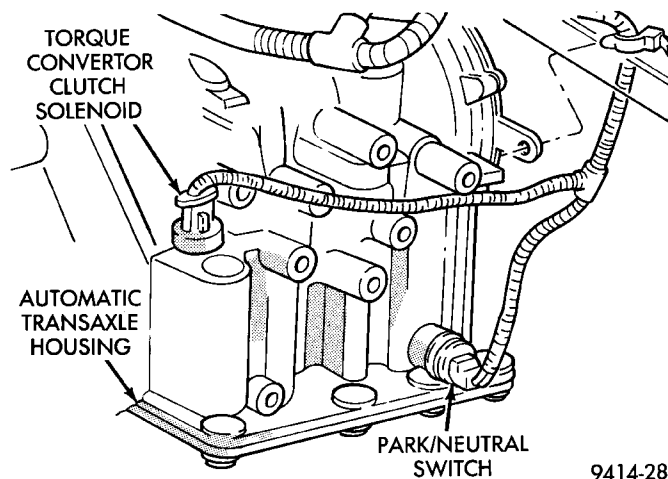

Fig. 48 Park/Neutral Switch and Torque Converter Clutch Solenoid
(21) On vehicles with automatic transaxles, check the electrical connections at the park/neutral switch and the torque converter clutch solenoid (Fig. 48).